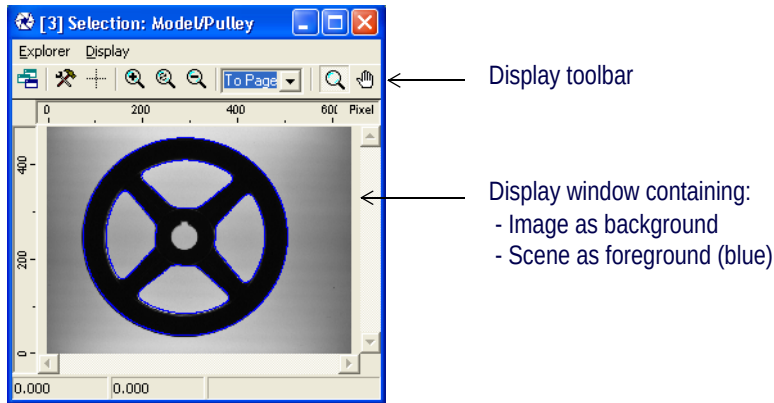

Figure 133 Display Scene and Image from the Explorer Database
- If you select **Append To** you must specify an already opened Image or Scene to be used as foreground. Figure 133 shows a display window with the Contour Scene as foreground and the Image as background.